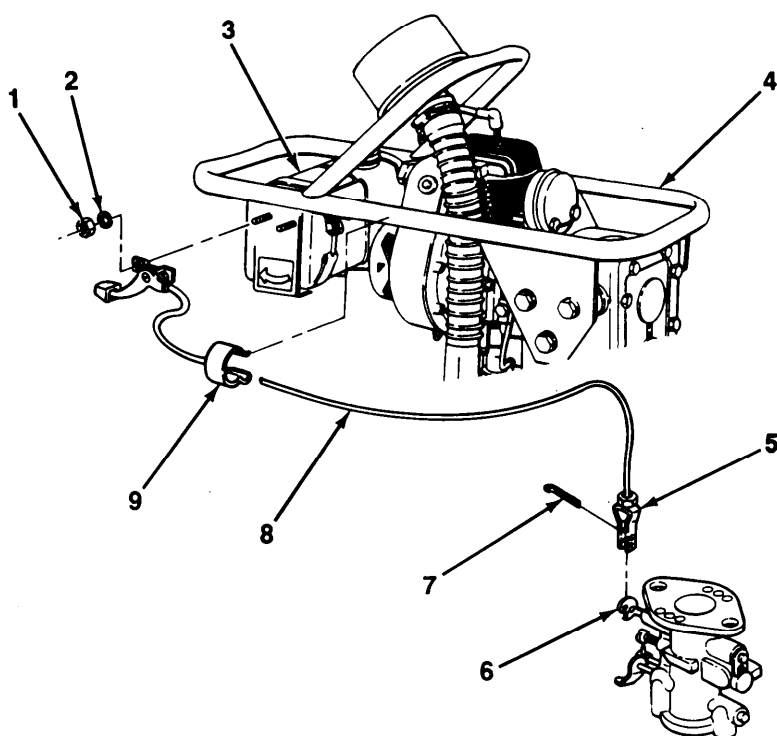

Figure 7-9. Throttle Control Replacement.
Refer to Figure 7-9, *Throttle Control Replacement*, for steps b through d.
*Refer to Figure 7-9, Throttle Control Replacement, for steps a through c.*
- a. Install throttle control (8) on fuel tank (3) with two new lockwashers (2) and nuts (1).
- b. Install clevis (5) on throttle lever (6) with new cotter pin (7).
- c. Install throttle control (8) on frame assembly (4) with clip (9).